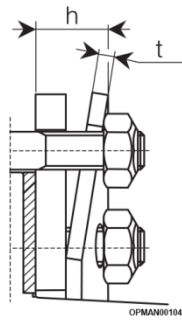

Figure 5.45
- 5.4.1.9 Tight progressively the bolts (e.g. half a turn per time) in order to uniformly compress the Belleville spring to its required compression "h"; see Figure 5.45